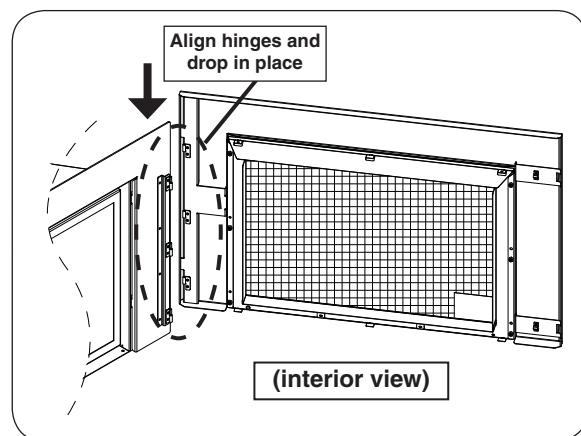

Fig. 31-3 Install surround door
Important: When installing the glass panel, ensure that no media, objects, or debris exist along the bottom of the unit that may obstruct/damage the glass panel. See Fig. 31-3.
1. The surround door has 2-3 hinges. Align the door over the hinges found on the right side of the surround fascia and drop in place. Ensure the door rests down in place. Wear gloves. See Fig. 31-3.